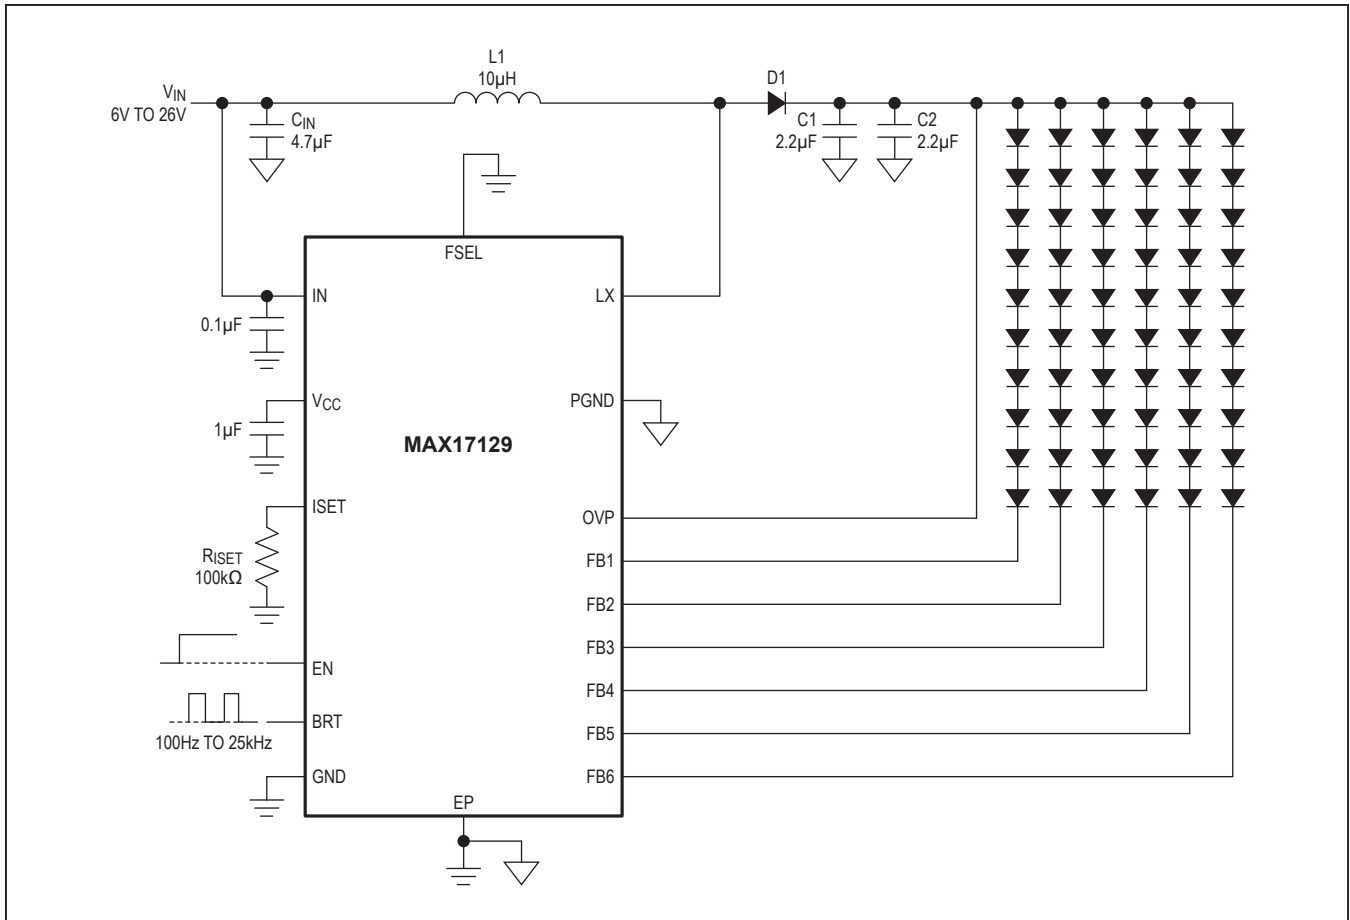

Figure 1. MAX17129 Typical Operating Circuit
**Electrical Characteristics (continued)**(Circuit of Figure 1.  $V_{IN} = 12V$ ,  $R_{ISET} = 100k\Omega$ ,  $T_A = -40^\circ C$  to  $+85^\circ C$ , unless otherwise noted.) (Note 1)
(Circuit of Figure 1.  $V_{IN} = 12V$ ,  $T_A = +25^{\circ}C$ , unless otherwise noted.)
(Circuit of Figure 1.  $V_{IN} = 12V$ ,  $T_A = +25^\circ C$ , unless otherwise noted.)
The MAX17129 typical operating circuit is shown in Figure 1. Table 1 lists some recommended components, and Table 2 lists the contact information for component suppliers.